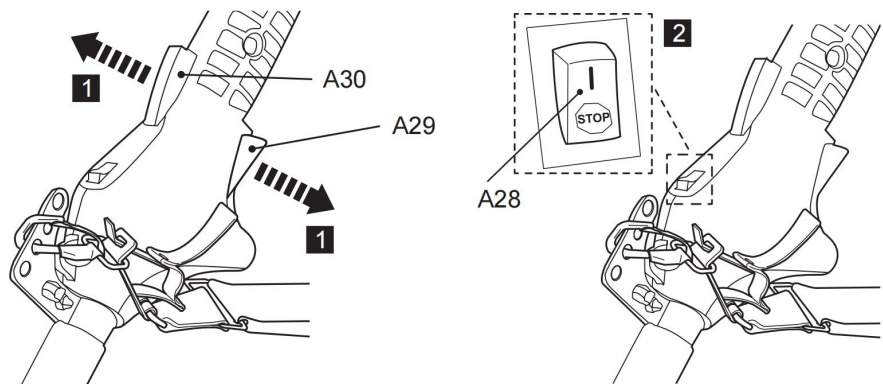

Fig. 42
- 2. Set the ignition switch (A28) to position “STOP” (Fig. 42).